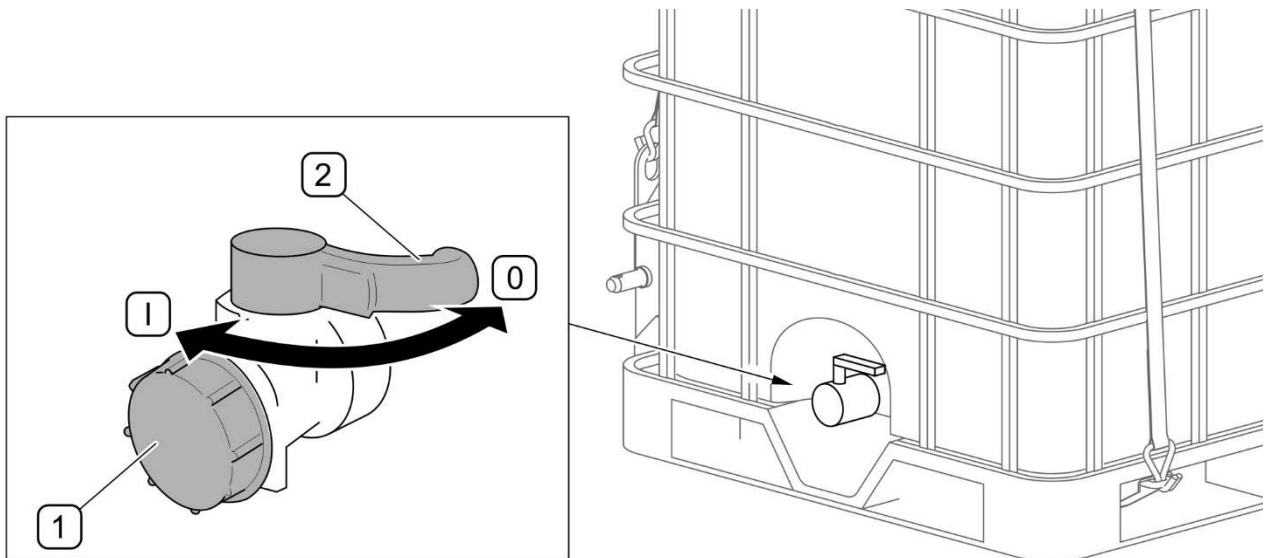

FIGURE 5.4 Draining water from the tank
If there is a risk that temperatures drop below 0°C, empty the water tank (FIGURE 5.4) and then start the pump for a short time to remove remaining water from the system.
(1) - protective plug; (2) - drain valve lever; (I) - open valve; (0) - closed valve
On the side wall in the lower part of the tank, there is a drain valve (FIGURE 5.4) protected with plug (1). In order to open the drain valve, set the valve lever (2) along the outlet opening to position (I) "open".